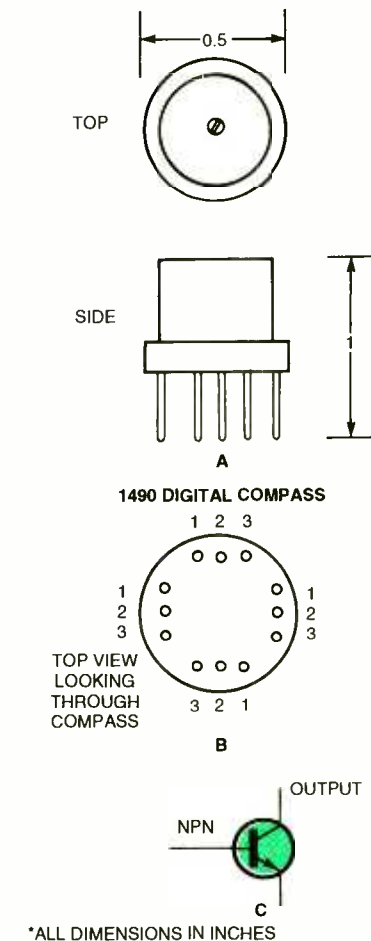
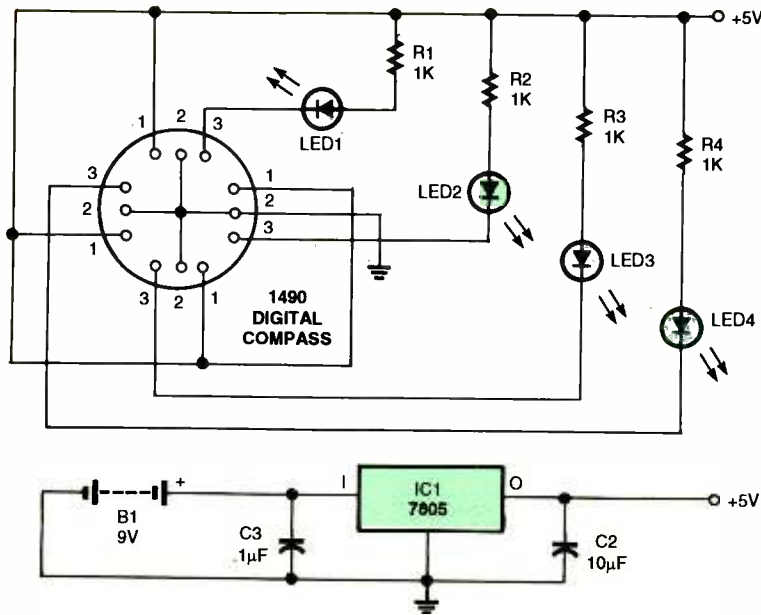

Fig. 1. Shown here is the schematic for the 1490 Digital compass from Dinsmore Instrument Co.
Fig. 2. This basic digital compass circuit allows the user to test the operation of the compass.
South East (SE), and South West (SW). The bottom of the device has a total of twelve leads, arranged in four groups of three leads. Looking down at the device from the top, you can see that each group of leads is labeled 1, 2, and 3 (see Fig. 1). The group of leads labeled 1 is connected to VCC (+5V). Those labeled 2 are connected to ground, and those labeled 3 are our output leads. The output leads of the device are equivalent
to an open collector of an NPN transistor (see Fig. 1). Each output is capable of sinking 20 mA continuously or 25 mA intermittently.
Figure 2 is a basic compass circuit. I am presenting this circuit to clearly illustrate how the Dinsmore sensor works; it isn't necessary to construct this circuit for the UFO Detector. The circuit uses four LEDs for directional display. Each cardinal position on the com-
To use the circuit in Fig. 2 as a digital compass, we need to calibrate the circuit. First, find the direction of magnetic north with a standard compass. Rotate the circuit so that just one LED is lit. Use that LED as North. I used the LED furthest away from the sensor for North (see Fig. 1). If you also follow the wiring in the schematic exactly, the other three LEDs will fall into the sequence shown in Table 1. (1 = on, 0 = off)